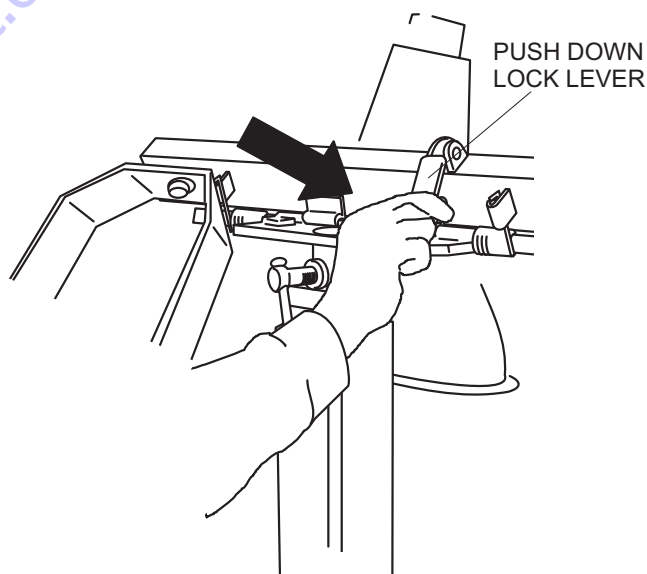

Figure 20. Locking Lamp Stand
5. After lighting unit has been completely pushed down, push down fold lever (Figure 20) to lock the lamp stand in place.